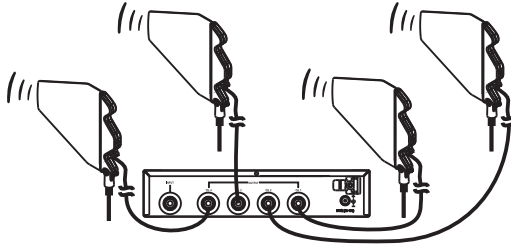

Fig. 3
- (A) The AD-90S provides four sets of transmit signals for use with AT-90W in four different directions for long-range wireless transmission applications in multiple directions. Ascertain to select quality coaxial cable, and the length should be minimized. The height of the antenna installation should be as high as possible and away from obstacles, as shown in Fig. 3.